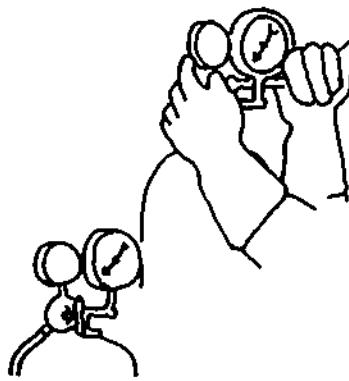

Figure 18-5. Attaching Regulators
b) Attach the regulators. Set the nuts up snugly with a wrench, not with pliers (Figure 18-5). Beware of grease.